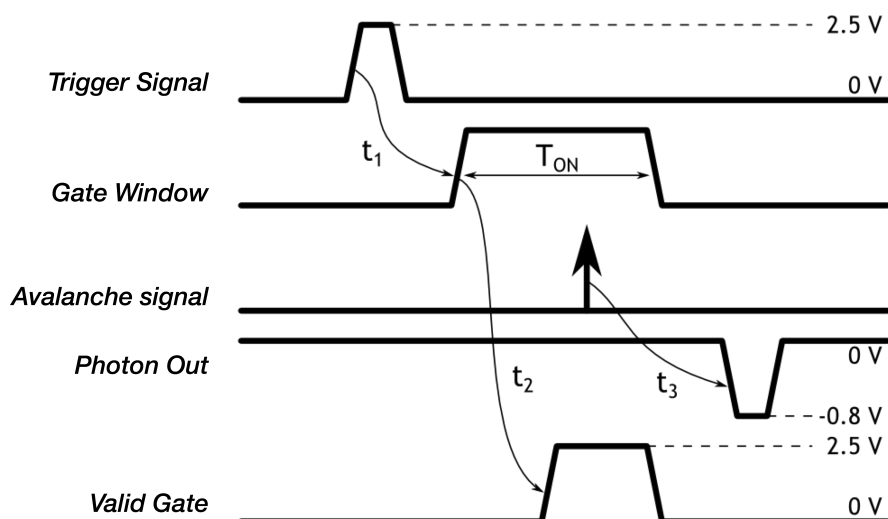

Figure 4.1. Signals waveform, with delay times highlighted.
In Figure 4.1 are reported the most important waveforms related to the InGaAs Single-Photon Detection Module that help the user to understand correctly the various internal and external signal propagation delays. In Table 4.1 are reported the delays between these signals, in various operating conditions.
- updated figure 4.1 and tables 4.4 and 4.7